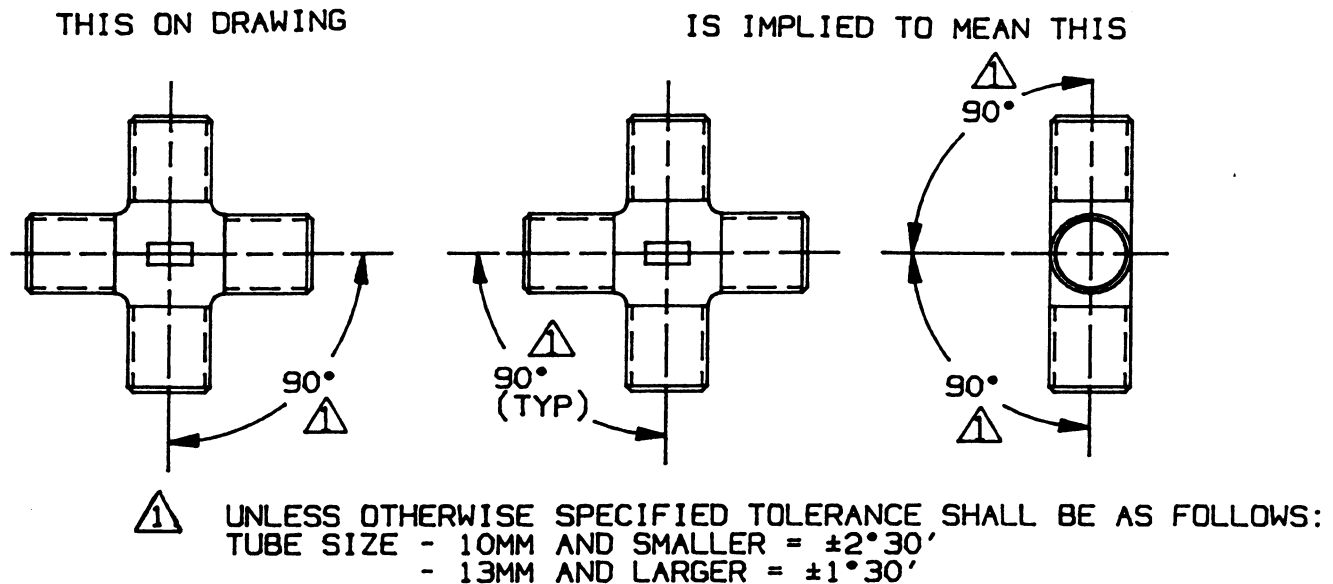

FIGURE 1 - Angularity Tolerance Between Legs of Shape Fittings
- 3.2.2.1 Shapes: Angularity between the legs of shape fittings such as tees, elbows, and crosses shall be as shown in Figure 1.